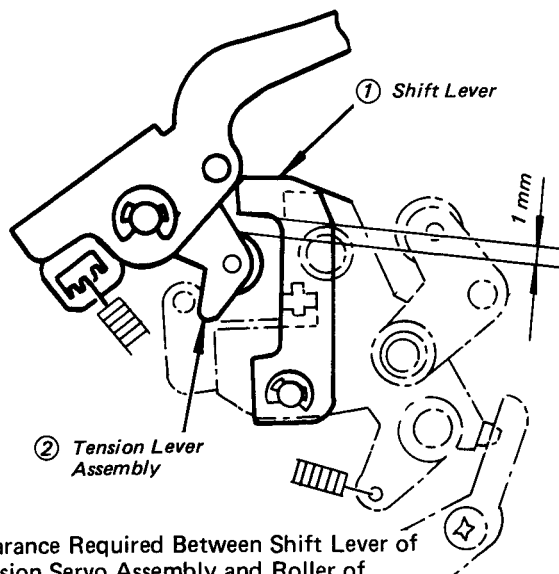

Fig. 5-70 Clearance Required Between Shift Lever of Tension Servo Assembly and Roller of Tension Lever Assembly
6. Further, make certain that the clearance between the shift lever ① of the tension servo assembly and the roller of the tension lever assembly ② is around 1 mm (see Fig. 5-70).
25-3. Adjusting stroke of the Cue/Review Solenoid (Figs. 5-70, 5-80)